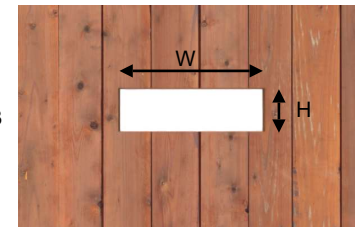

Fig 3
- Cut a hole for the letter plate in the required position. The hole should be 249mm wide (W) and 74mm high (H) *Fig 3*. This allows a 2mm tolerance around all sides.